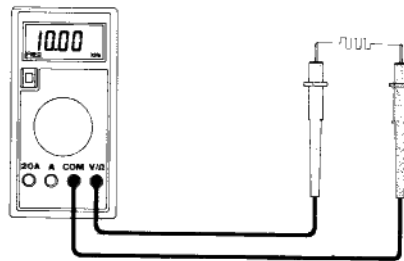

Fig. 5-11 Frequency Measurement
2. Turn the Rotary switch to the f kHz range to be used and connect the test leads across the frequency under measurement. See Figure 5-11.